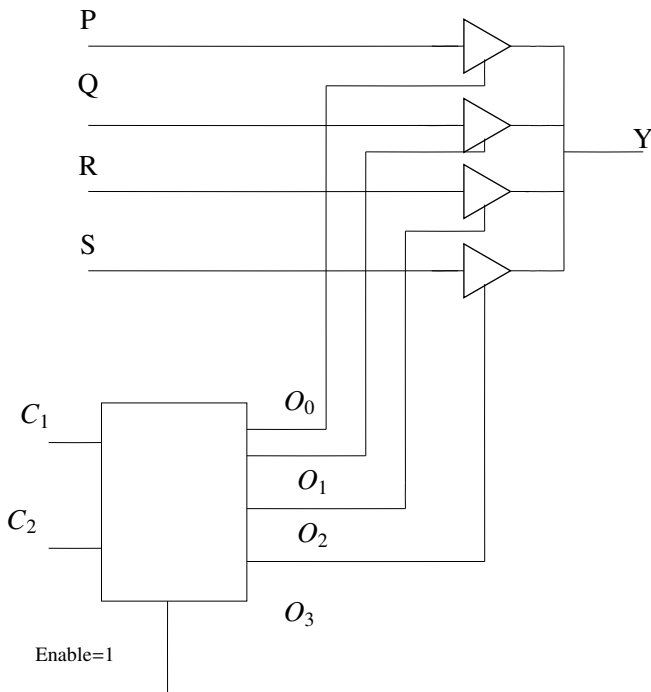

Fig. 3.33: Multiplexer
51. The functionality implemented by the circuit below in Fig. 3.33 is (GATE 2016 EC)